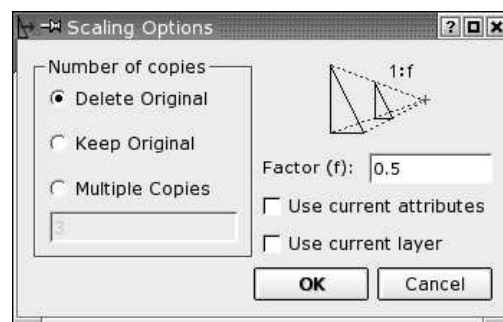

Figure 54: Scale options dialog.
4. The scale dialog is displayed (Figure 54). To scale the entities without keeping the original entities, choose "Delete Original", to copy them choose "Keep Original". Finally you can create a number of scaled copies at once, by choosing "Multiple Copies" and entering the number of copies in the text line below. Note that '9' will create 9 copies and keep the original - so there will be 10 instances of the entities in the end. The copies will have the same attributes and be on the same layer as the original entities. To change that default behavior, you can tick "Use current attributes" or "Use current layer".